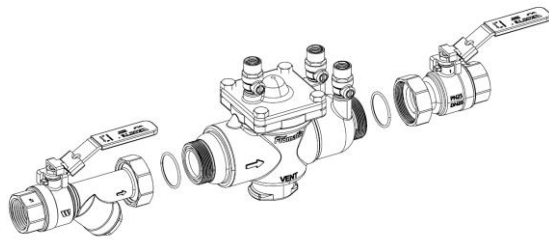

Figure 2: Assembly of RPZ Device with union ball valve and strainer
- Fit the combined ball valve-strainer to the inlet of the device and the ball valve on the outlet, as shown in Figure 2. Ensure that the O-ring's between the device and the ball valve are clean and lubricated before assembly.